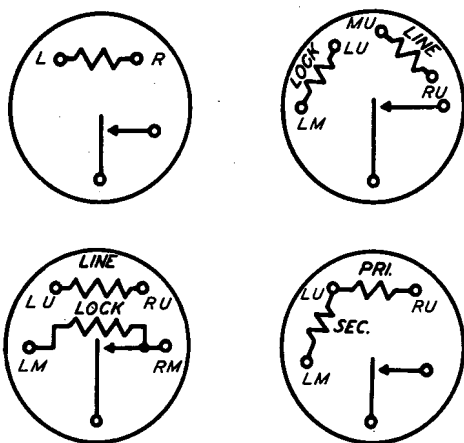

FIG. 10 - WINDING TERMINAL ARRANGEMENT AS VIEWED FROM THE REAR (TERMINAL SIDE) - 89, 101, 105, 108, 118 AND 172 TYPE RELAYS
2.11 As viewed from the front of the relay, the front contact is indicated by 1, the armature by 2 and the back contact by 3 except on relays having only a back contact in which case the armature is indicated by 1 and the back contact by 2. The winding terminals for these relays are designated as shown in Figs. 10, 11, 12 and 13, as viewed from the rear of the relay. Connection can be made to the winding terminals of the 89, 105, 108, 172 and 196 type relays from the front of the relay.
Note: The terminal designated LM in Fig. 10 was formerly designated L.